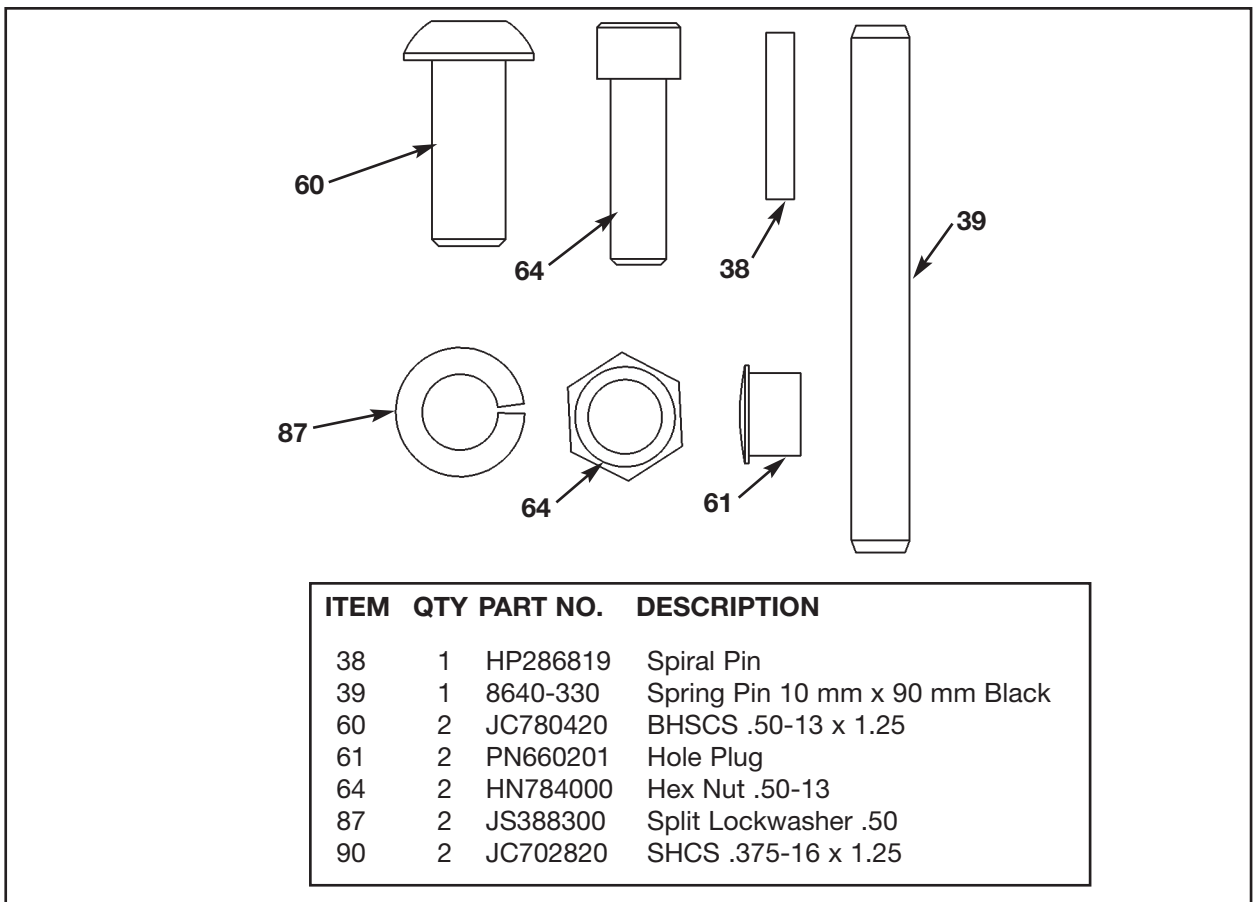

Figure 10
5. Install the Leg Extension/Leg Curl Assembly to the appropriate configuration (see steps 5A - 5F and Figures 10 - 12B).
- B. Verify contents of hardware pack. See Figure 10.